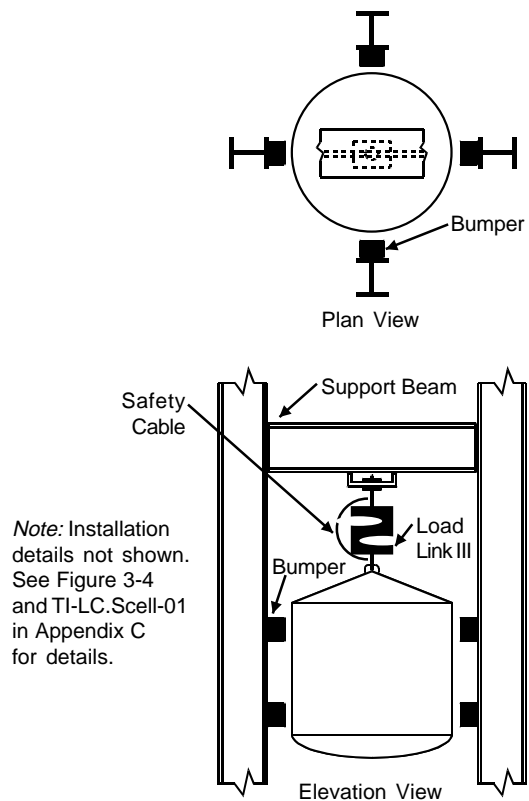

Figure 3-1. Single-Point Support Installation
- See Figure 3-1. **Single-point supports** are often used for vessels containing liquids. Bumpers, check rods, or cables are required to limit accidental side motion. Ensure the bumpers, check rods, or cables do not cause friction and do not restrain vertical movement of the vessel. Use rotational restraints to prevent the vessel from rotating and unscrewing hardware. Do not use single-point supports for vessels containing solids, because off-center loading may occur. Off-center loading shifts the center of gravity and causes the vessel to contact the bumpers, resulting in erroneous readings.